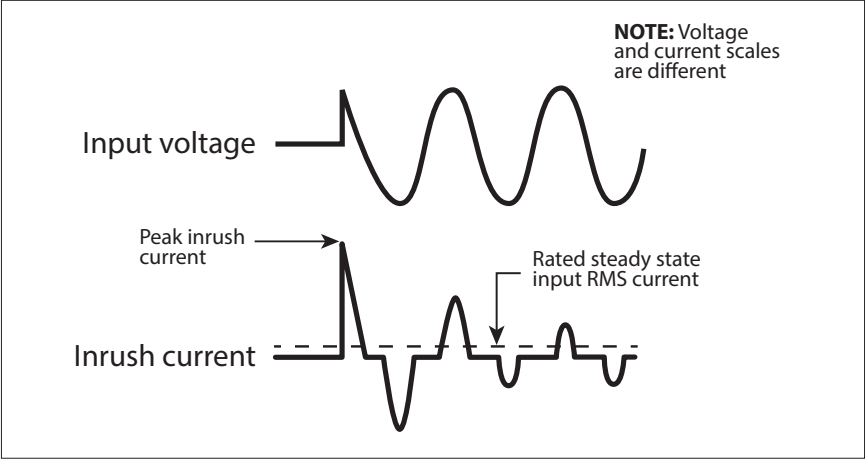

Fig 4.1: Inrush Current in an SMPS
- **AC to DC Switched Mode Power Supplies (SMPS)**: This type of power supply is used as stand-alone power supply or as front end in all electronic devices powered from Utility/Grid e.g. in audio/video/computing devices and battery chargers (Please see Section 4 for more details on SMPS). When this power supply is switched ON, its internal input side capacitors start charging resulting in very high surge of Inrush Current for a few millisecs (Please see Fig 4.1). This surge of inrush current/power may reach up to 15 times the continuous maximum running power rating. The surge of inrush current/power will, however, be limited by the surge power rating of the AC source.
Switch Mode Power Supplies (SMPS) are extensively used to convert the incoming AC power into various voltages like 3.3 V, 5 V, 12 V, 24 V, 48 V etc. that are used to power various devices and circuits used in electronic equipment like battery chargers, computers, audio and video devices, radios etc. SMPS use large capacitors in their input section for filtration. When the power supply is first turned on, there is a very large inrush current drawn by the power supply as the input capacitors are charged (The capacitors act almost like a short circuit at the instant the power is turned on). The inrush current at turn-on is several to tens of times larger than the rated RMS input current and lasts for a few milliseconds. An example of the input voltage versus input current waveforms is given in Fig. 4.1. It will be seen that the initial input current pulse just after turn-on is > 15 times larger than the steady state RMS current. The inrush dissipates in around 2 or 3 cycles i.e. in around 33 to 50 milliseconds for 60 Hz sine wave.